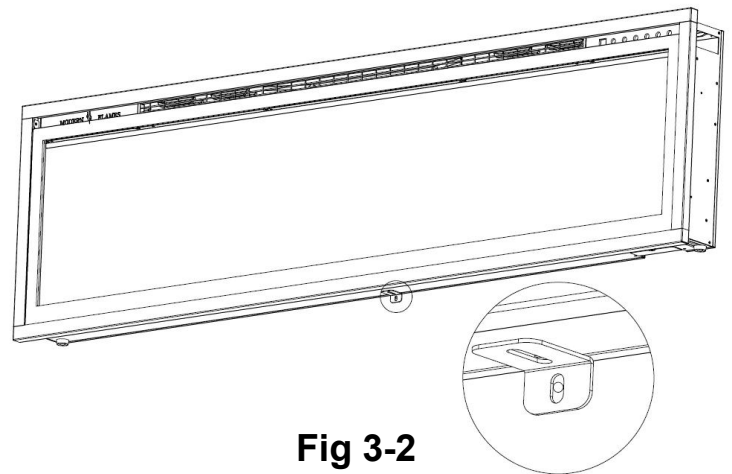

Fig 3-2
B. Using the screw previously removed, attached the L-bracket (supplied) to the bottom of the fireplace box. **(Fig 3-2)**